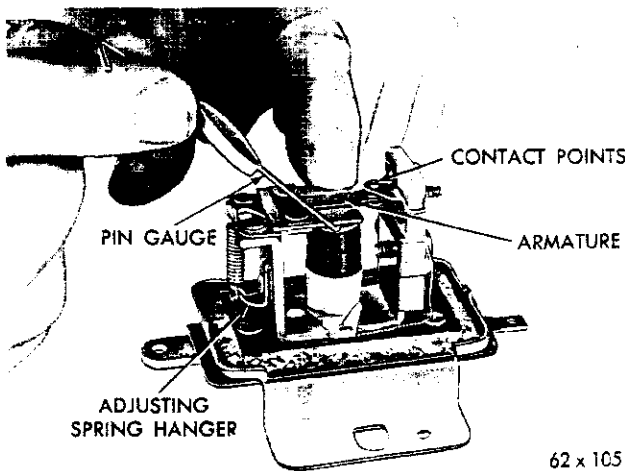

Fig. 51—Testing the Air Gap
(1) Remove the regulator from the vehicle. Remove the regulator cover.
(2) Insert a .048 inch wire gauge between the regulator armature and the core, next to the stop pin on the spring hanger side (Fig. 51).
(3) Press down on the armature (not the contact spring) until it contacts the wire gauge. The